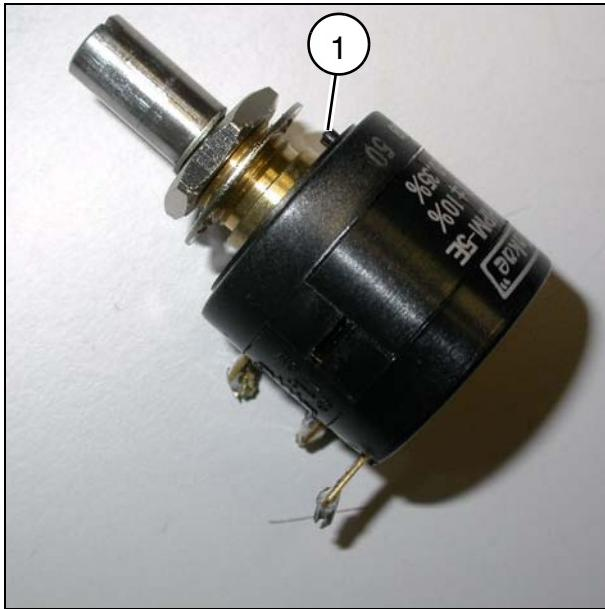

Fig. 3
- Unscrew and remove the potentiometer from its metal enclosure, if any; note down the numerical and color coding and de-solder the wires (Fig. 3). As help here the usual coding (observe the reality, it can differ!).
- Attach and solder the wires onto the contact lugs of the new potentiometer. Place it into its metal enclosed observing the position of the little pin (1/Fig. 3) which should prevent its turning; apply the washer and the mounting nut and tighten it.